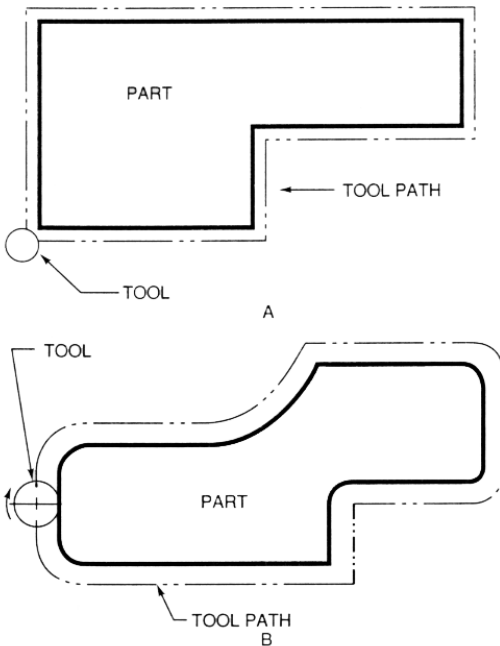

Fig. 10 Types of contour machining (A) Simple contour; (B) complex contour (Allen Bradley)
*Contouring, or continuous path machining, involves work such as that produced on a lathe or milling machine, where the cutting tool is in contact with the workpiece as it travels from one programmed point to the next. Continuous path positioning is the ability to control motions on two or more machine axes simultaneously to keep a constant cutter-workpiece relationship.* The programmed information in the CNC program must accurately position the cutting tool from one point to the next and follow a predefined accurate path at a programmed feed rate in order to produce the form or contour required (Fig. 10)